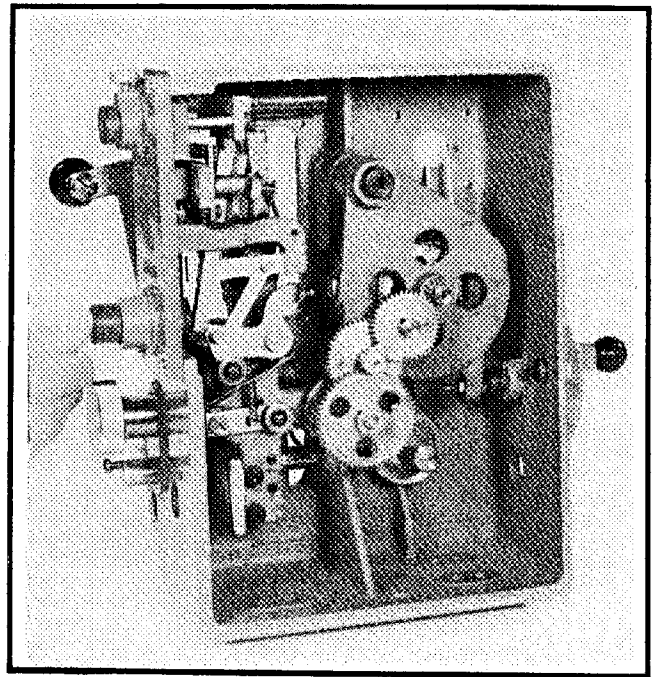

FIG. 14. WELD SWITCH IS BLOCKED WITH RESET LEVER AT "ANNEAL" POSITION.
- (3) Stop nuts "B" and "C" provide a weld switch mechanical block. This prevents accidental tipping of the welding switch during an annealing operation, resulting in a burned out weld. Adjust stop nuts "B" and "C" until the jaw insert gap in the fully open or "anneal" position is 7/8-inch. Check to see that weld switch is prevented from operating. See Fig. 14.